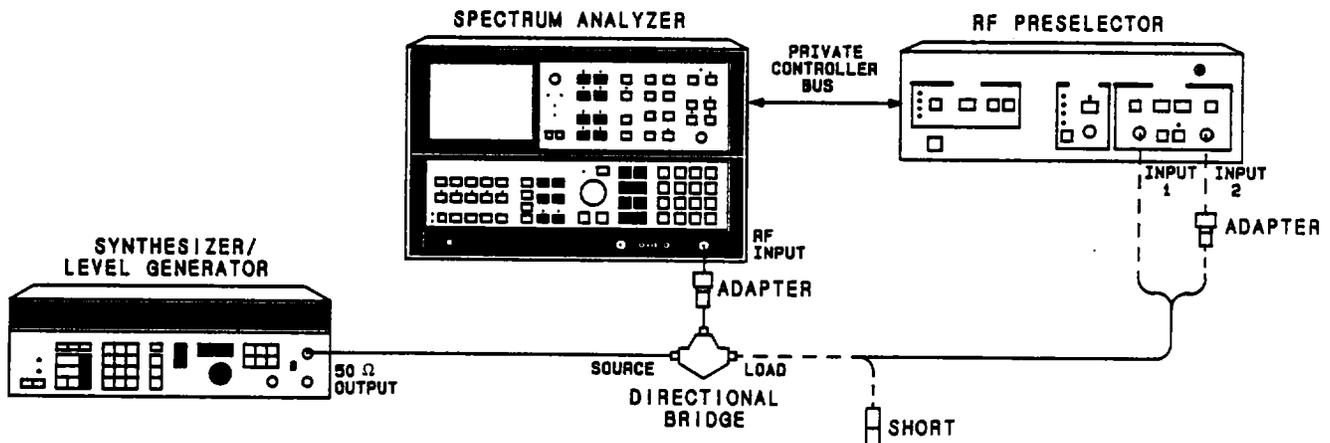

Figure 2. SWR Test Setup Below 80 MHz
Equipment listed is for test setups in Figures 2 and 3.
1. Connect equipment as shown in Figure 2, using the short.
9. Remove the short and connect Input 1 of the preselector to the directional bridge. See Figure 2.
14. Disconnect the preselector and terminate the directional bridge load port with the short. See Figure 2.